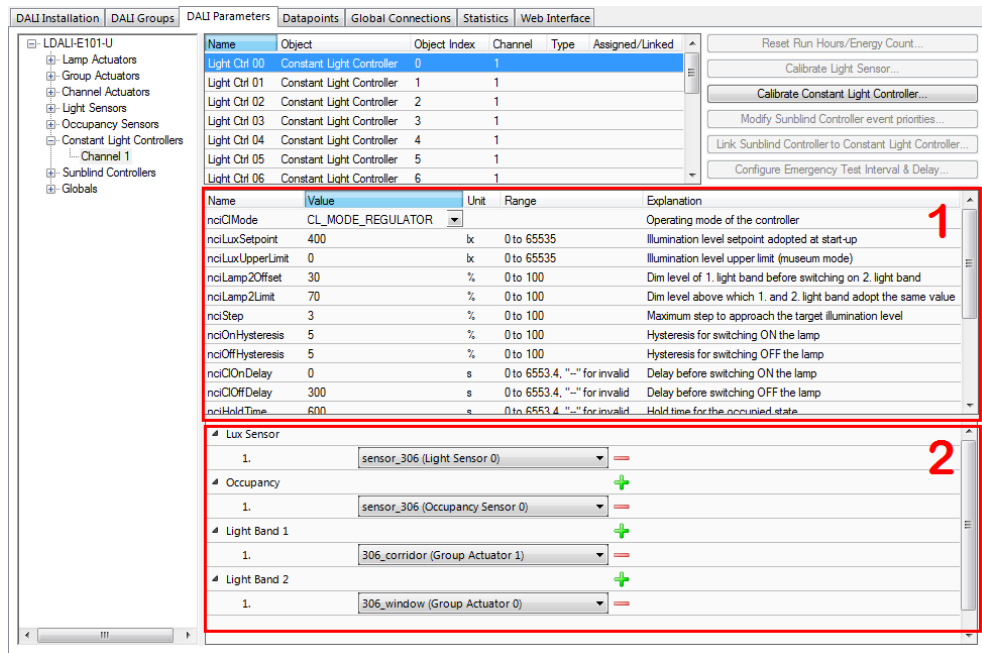

Figure 79: Parameterize Constant Light Controller.
- Select the constant light controller with index 0 as shown in Figure 79. The parameters of the selected constant light controller are displayed in the middle of the window (1).